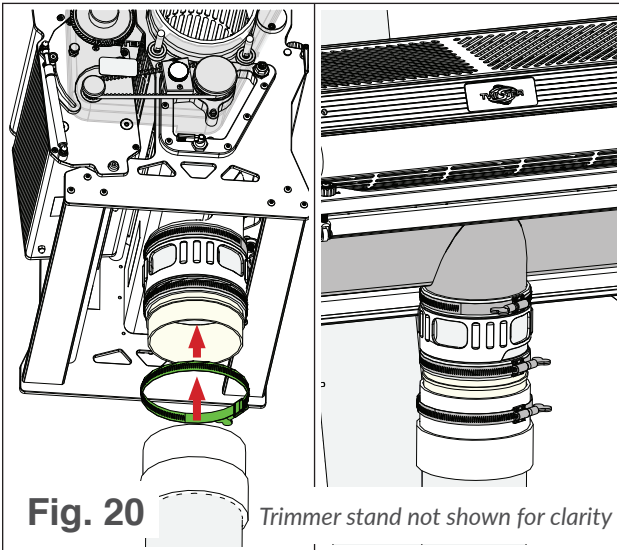

Fig. 20 *Trimmer stand not shown for clarity*
2. Slide a hose clamp around the unattached hose cuff on the cyclone to trimmer hose (see Fig. 20).
3. Slide the cyclone-to-trimmer hose cuff over the vacuum coupling adapter (see Fig 20).